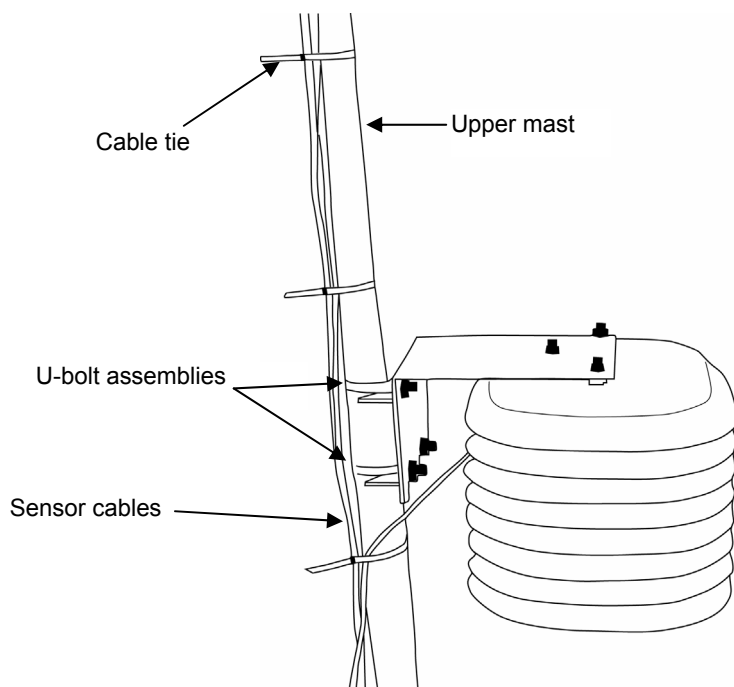

Figure 36: Securing the sensor cables on upper mast
9. Use cable ties to secure cables to the mast (see Figures 36 and 37). Also secure any cables running to remote sensors to the mast or to one of the tripod legs.